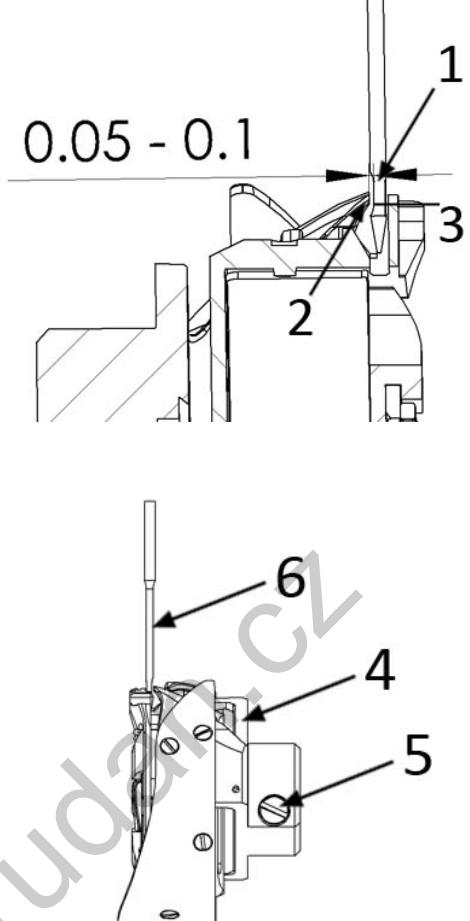

Fig. 22, 23
- D. Loosen the screw (1) now and move with the needle bar so that the edge of the hook (8), which is in the axe of the needle, is placed just above of lower edge of hook relief (1), Fig. 22. Tighten screw (1).
- E. Set the edge of the hook in distance of 0.05 - 0.1mm from the hook relief (1) at the same time, Fig. 22. Tighten screws (5) on the ring of the hook (4), Fig. 23.